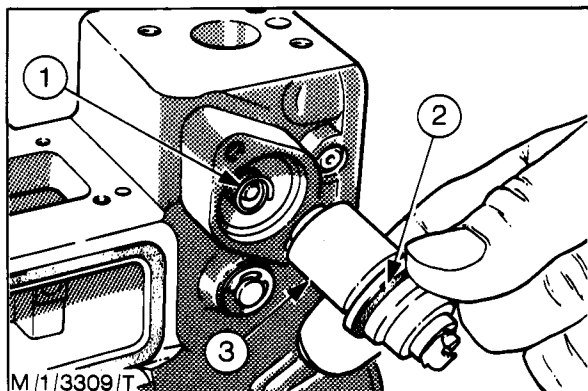

Fig. 69 - Installing the Excess Fuel Solenoid (Dover)
15. Fit the spring onto the excess fuel shaft and then install the solenoid unit. Fit a new 'O' ring onto the solenoid and then fit the retaining collar. Secure it with the two small bolts (Fig. 69).